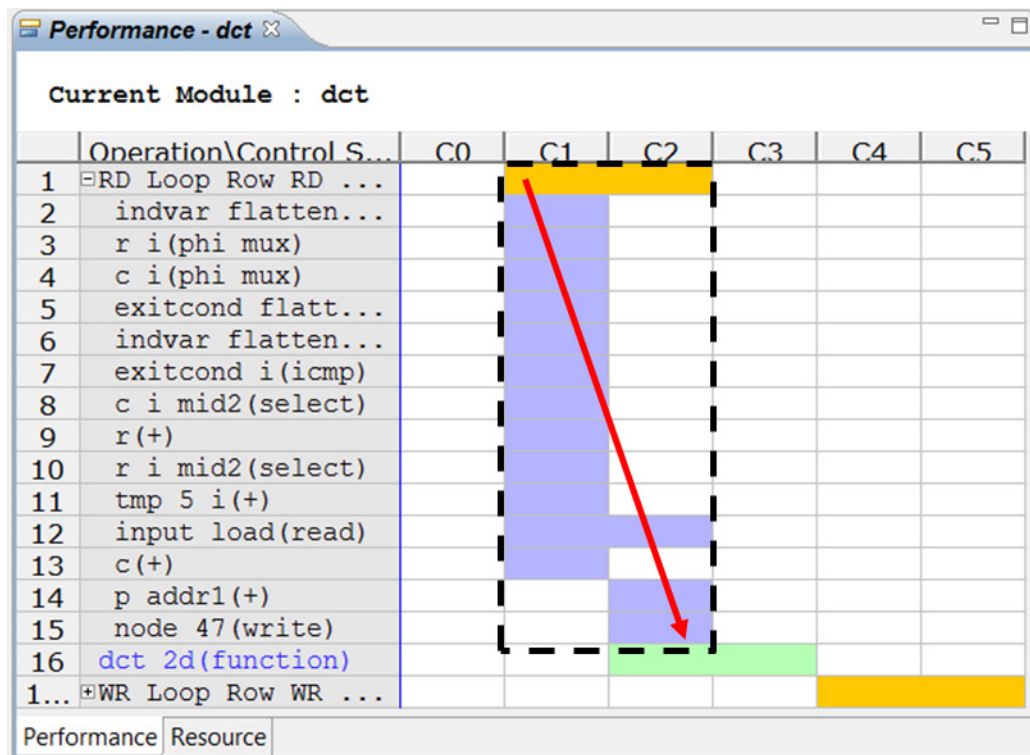

Figure 6-22: Analysis of DCT RD_Loop_Row
11. In the **Performance** view, expand the first loop in the design as shown in Figure 6-22, RD_Loop_Row_RD_Loop_Col (these loops were flattened and the name is now a concatenation of both loops).
This loop is implemented in two states. The red arrow in Figure 6-22 shows the path from the start of the loop to the end of the loop: the arrow is almost vertical (everything happens in two clock cycles) and this loop is well implemented in terms of latency.